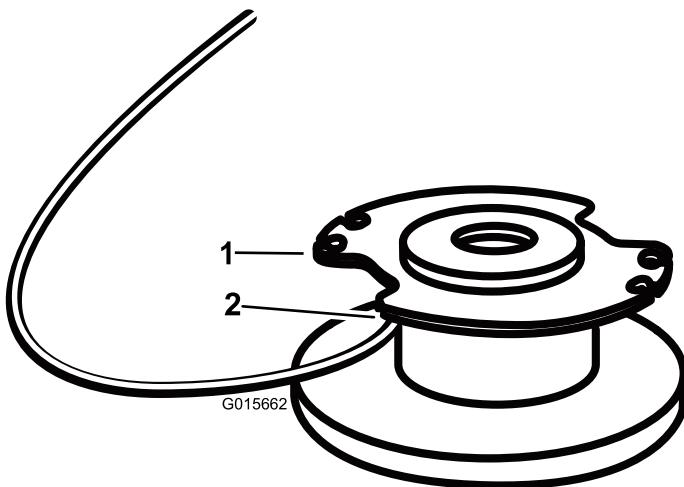

Figure 14
4. Insert the string into the anchor hole in the upper part of the spool (Figure 14). Wind the string onto the spool in the direction shown by the arrows on the spool.